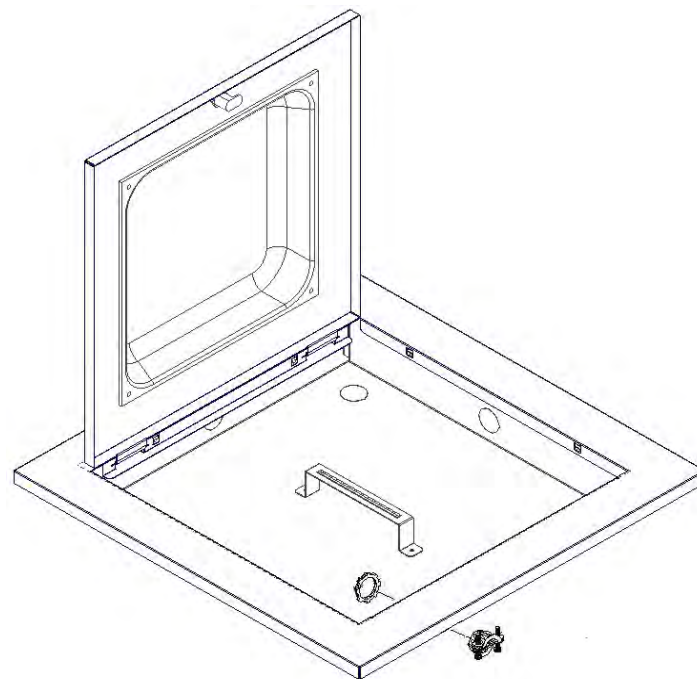

Figure 2 – Installation of cable clamp(s)
Step 2 – Install the conduit connector. Remove the knockout(s) from the inside of the enclosure. Insert the cable clamp through the hole with the nut installed from the inside of the enclosure. If using Power Over Ethernet (P.O.E.) use 1 cable clamp. If P.O.E. is not being used, install both cable clamps and bring power and Ethernet into the enclosure through separate clamps (Ref. *Figure 2*).